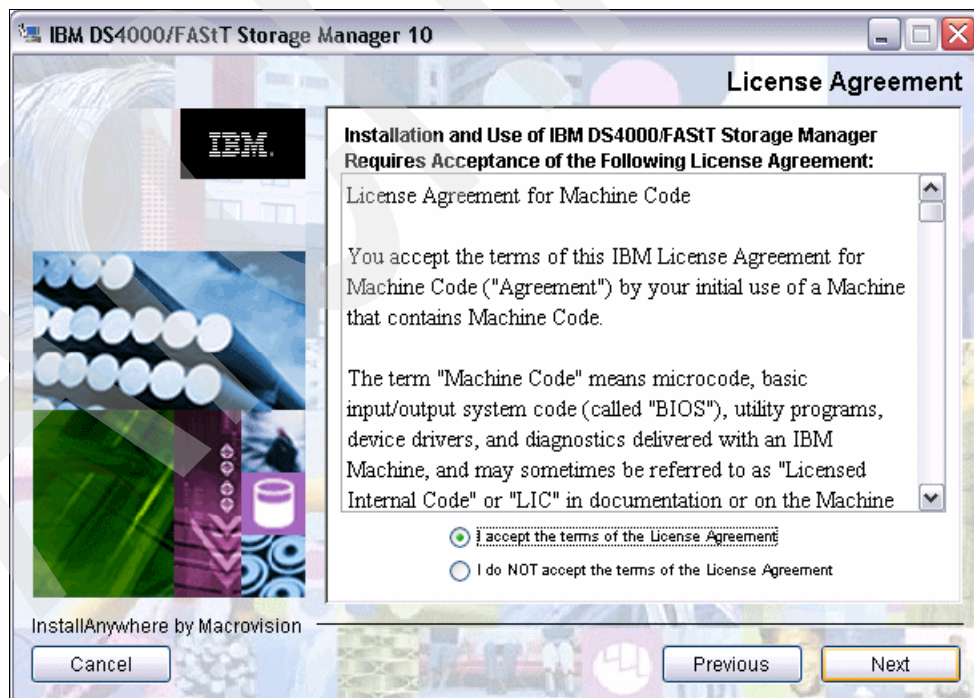

Figure 7-5 SM License Agreement dialog
6. Select **I accept the terms of the License Agreement** on the License Agreement dialog and click **Next** to continue, as shown in Figure 7-5.